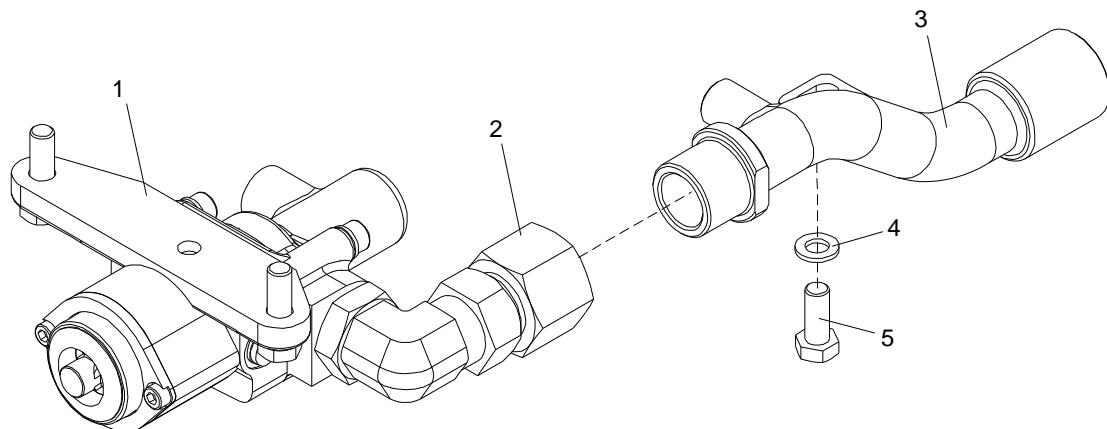

Figure 7-29: Replacement of MRP Connection Pipe
1. Take notes how the pneumatic connections are connected to the MRP connection pipe (3) and loosen the connections. See Figure 7-29.
2. Unscrew the pipe connection (2) on the MRP valve (1).
3. Remove the MRP connection pipe (3) by removing the screw (5) and washer (4).
2. Apply Loctite 545 to the pipe connection threads and fit the MRP connection pipe (3) to the MRP valve (1) and tighten the pipe connection (2). See Figure 7-29.
3. Mount the washer (4) and screw (5).
4. Connect pneumatic connections to the MRP connection pipe (3) according to previous notes.